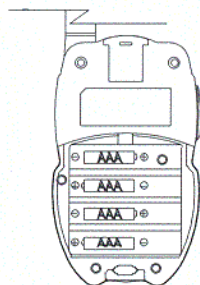

Figure 2.
2. Install four (4) "AAA" Alkaline Batteries (not included) following the polarities as shown in Figure 2.